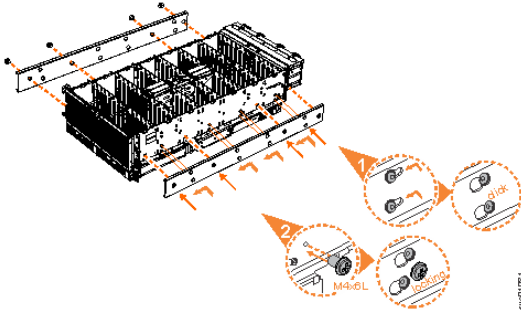

Figure 46. Attaching the inner rail section to the enclosure
5. Install the inner section of the rail onto each side of the expansion enclosure, as shown in Figure 46 on page 87.